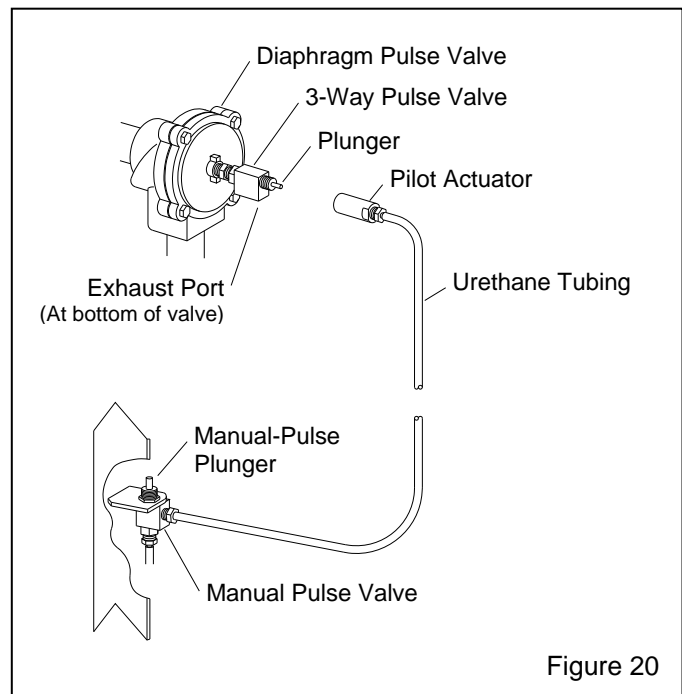

Figure 20
8.1.4 Refer to Figure 20 and check the diaphragm pulse valve and actuator assembly as follows.